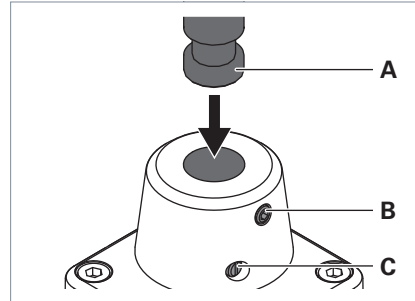

Fig. 3: Mounting the luminaire to the fastening element.
- Unscrew the screw **C** from the fastening element, see Fig. 3.
- Screw the setscrew **B** into the fastening element until reaching the desired friction, see Fig. 3.